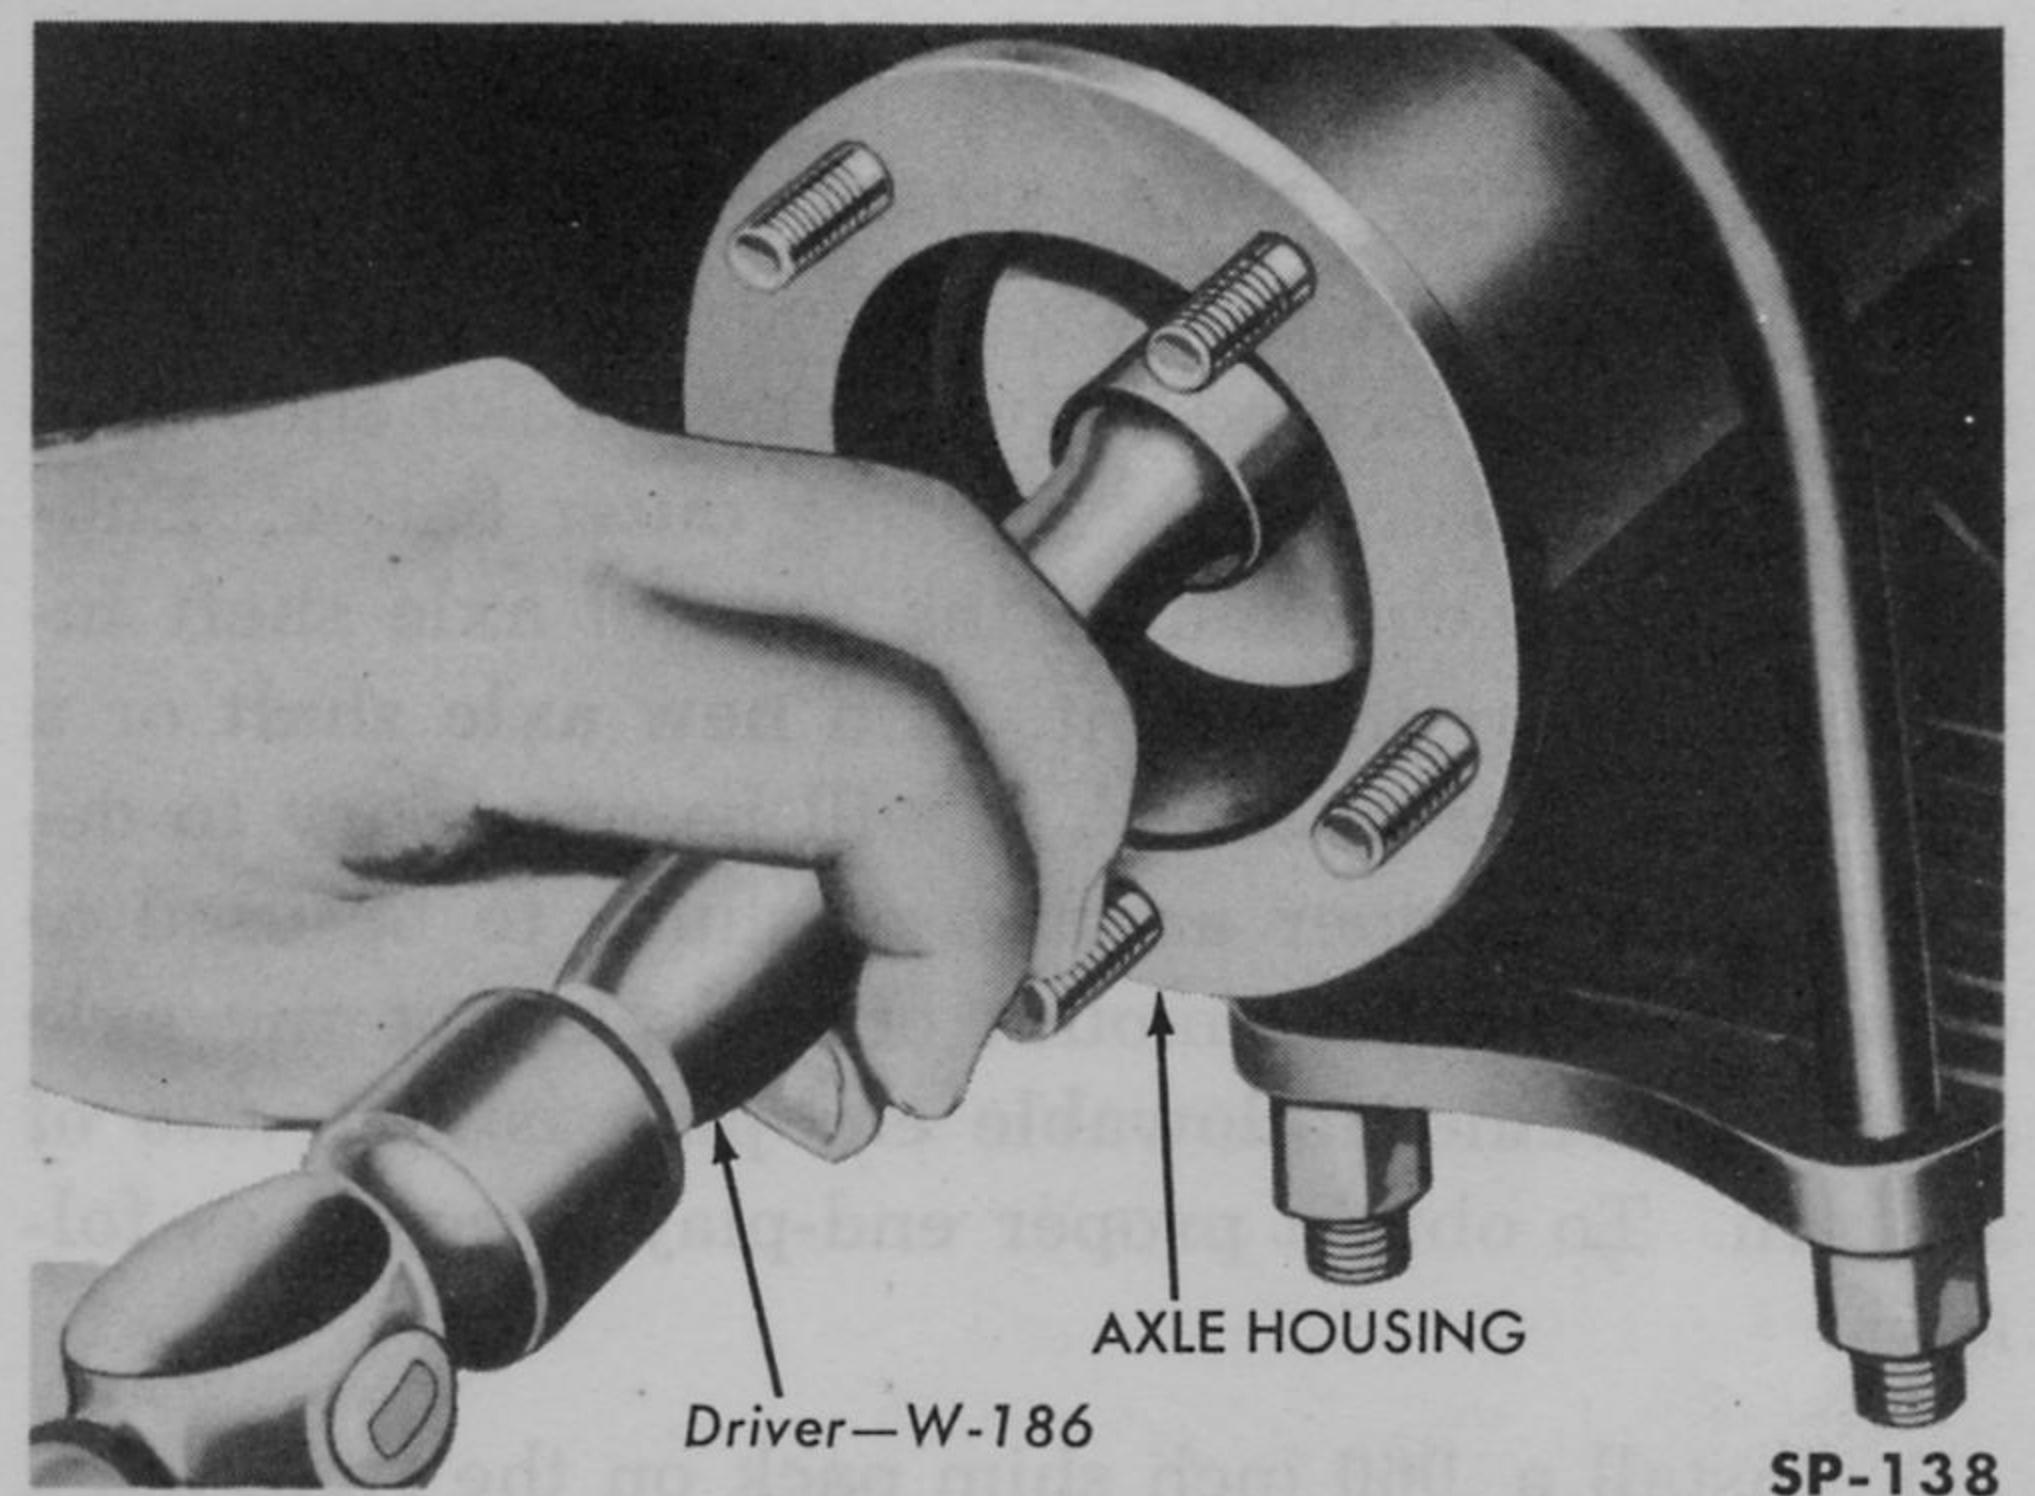

Fig. 257—Installing Axle Shaft Inner Oil Seal
2. Install the inner oil seal (Fig. 257), using Driver W-186. Drive the seal into the axle housing until it is fully seated. It is recommended that a new seal be used as an assurance against grease leaks.